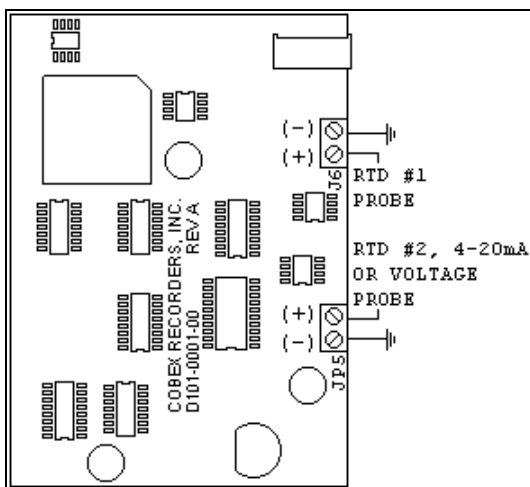

Figure 1A: Microprocessor PC Board (Type "A").
Next, you will need to determine the *type* of microprocessor controller PC board that is installed in your recorder. Refer to Figures 1A, 1B and 1C and compare these figures to the microprocessor controller PC board that is installed in your recorder.
If your recorder has a **Type A** microprocessor controller PC board installed, then locate screw terminal blocks J6 and JP5. Screw terminal block J6 is normally used when connecting an RTD temperature probe and JP5 is normally used to supply a signal input to the recorder from a VOLTAGE or CURRENT type probe. JP5 may also be used when connecting a second RTD temperature probe (on a two pen recorder). Refer to Figure 1A for the location of J6 and JP5 on the microprocessor PC board.
**Note:** If your recorder has a **Type A** microprocessor controller PC board installed, then the current range that the recorder is operating in will be altered when this *change range* mode is entered. For example, if the recorder is currently operating in range #1 and the left arrow (#1) button is pressed for the eight second period as described above and then released, the current range will be advanced to range #2 and the LED light will begin flashing two (2) times. Refer to Figure 1A to determine if you have a **Type A** microprocessor controller PC board installed.